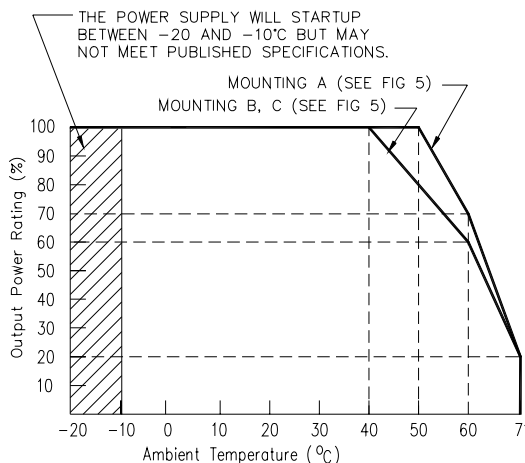

FIGURE 1. OUTPUT POWER VS. TEMPERATURE, K MODELS (WITHOUT COVER)
OPERATING TEMPERATURE: -10 to 71°C (start up -20 to -10°C). See the derating, Figure 1 or 2. Do not allow the power supply to become dust covered because that will decrease the cooling efficiency of the unit and cause insulation to deteriorate.
MOUNTING THE POWER SUPPLY: Refer to Figures 5 and 6. The unit may be mounted on one mounting surface. Note the restrictions for maximum penetration of mounting screws. The air temperature surrounding the power supply must not exceed the ambient values given in the graph in Figure 1.
2. REFER TO FIGURE 1 FOR OUTPUT POWER VS. TEMPERATURE FOR MOUNTING METHOD SELECTED.